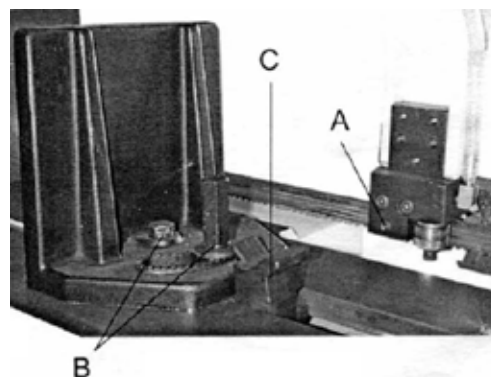

Figure 18. Vise Adjustment
1. See Figure 18. Turn vise handwheel (A) 1/2 turn counter-clockwise.
2. Move rack block (B) to desired location by sliding along the bed. Place the rack block onto the rack.
2. Tighten bolts and adjust movable vise parallel to fixed vise by loosening bolts (Figure 18, **B**), adjusting to match parallel.